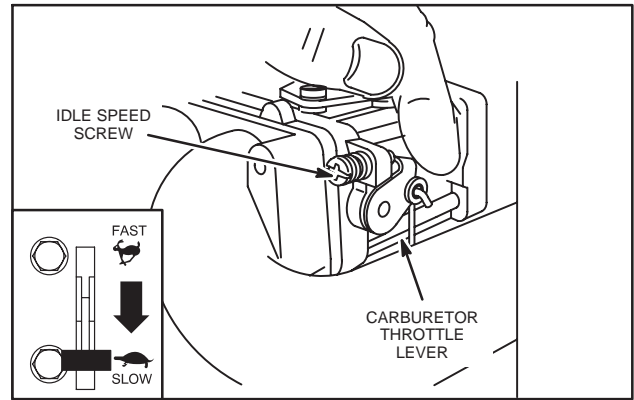

Fig. 25 – Adjust Idle Speed
2. Hold throttle lever against idle speed adjustment screw and adjust idle speed to 1200 RPM, Fig. 25. Release throttle lever.